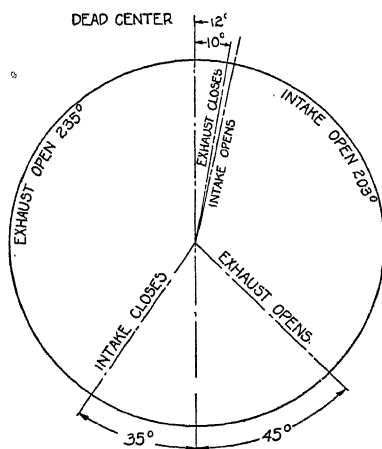

Fig. 13. Valve-Timing Diagram for Four-Cylinder Engine
To use these settings marked on the flywheel, a stationary pointer on the upper surface of the crankcase hangs over the flywheel surface as closely as possible and indicates the reading. The flywheel is turned by hand or by means of the crank at the front of the engine until a mark or the desired mark is brought up to the pointer. Thus the cylinders are marked from front to back always, that nearest the radiator being 1, the next 2, then 3, and the last, in the case of a four-cylinder engine, 4. In a six-cylinder engine the method is the same with the addition of two cylinders, the one nearest the dash being 6. The flywheel sometimes has the positions marked on its surface, as well as the valve operations. Fig. 13 shows the valve-timing diagram of a four-cylinder engine. Notice in this that none of the valve operations begin or end on a dead center point so that even if the centers are marked on the flywheel, as they are in this case, this is of little benefit except as will be pointed out. The marks on the flywheel and what they mean are as follows:
*Relation of Settings in Each Cylinder.* Having checked up and adjusted both valves for cylinder 1, follow through the same process for cylinder 4, then for cylinder 2, and then for cylinder 3. The diagram, Fig. 13, shows but the cycle in each cylinder, and the